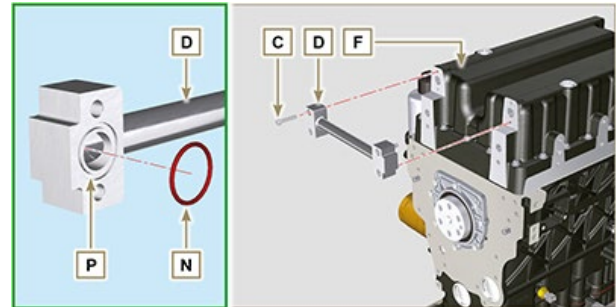

Fig. 11.79
2. Fasten housing or plate **L** by using capscrews **A** and strictly following the order shown in **Fig. 11.79** (tightening torque at **85 Nm**).